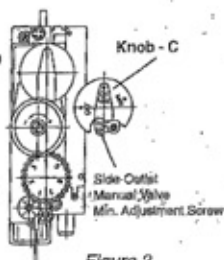

Figure 2
- Combination control is shipped with the side-outlet manual valve set at maximum flow. If adjustment is required perform step g., and then set the manual valve knob (knob - C, Figure 2) to the minimum position.
Turn side-outlet manual valve minimum adjustment screw (Figure 2) clockwise to decrease flow.